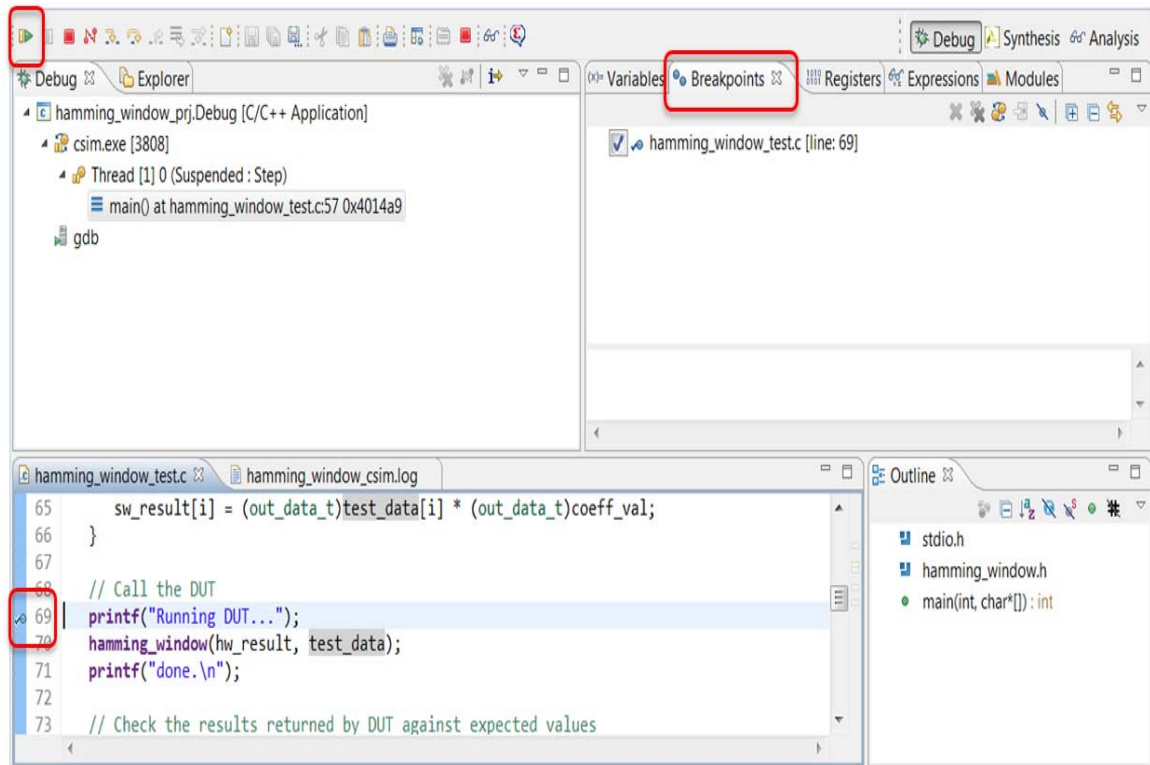

Figure 3-10: Using Breakpoints
8. Place the cursor in the left-hand margin on line 69, right-click with the mouse button and select Toggle Breakpoint. A breakpoint (blue dot) is indicated in the margin, as shown in Figure 3-10.
9. Activate the Breakpoints tab, also shown in Figure 3-10, to confirm there is a breakpoint set at line 69.
10. Click the **Resume** button (highlighted in Figure 3-10) or the F8 key to execute up to the breakpoint.